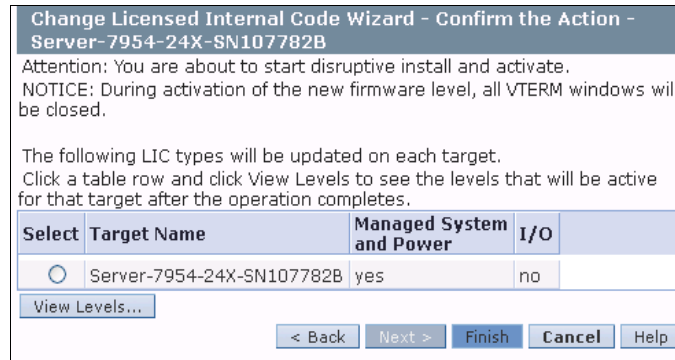

Figure 7-127 Change LIC wizard confirmation window
12. Figure 7-127 shows the update wizard that is continuing with a request to confirm the update action. Click **Finish** to proceed with the update.